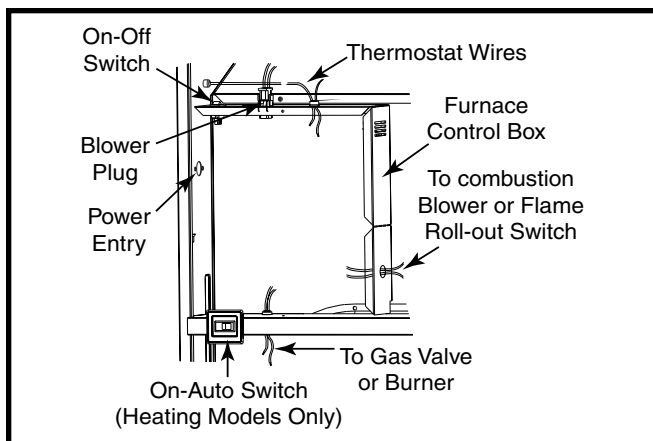

Figure 24. Control Panel (All Models)
Route all electrical wiring to the left side of the furnace. See Figure 24. For installation of A-size Cabinet furnaces, allow sufficient slack in the wiring if an optional cooling coil cabinet is added at a later time. **Use of copper conductors is recommended.**
2. Route wires (115 VAC) through the strain relief on the left side of the furnace control box (Figure 24).